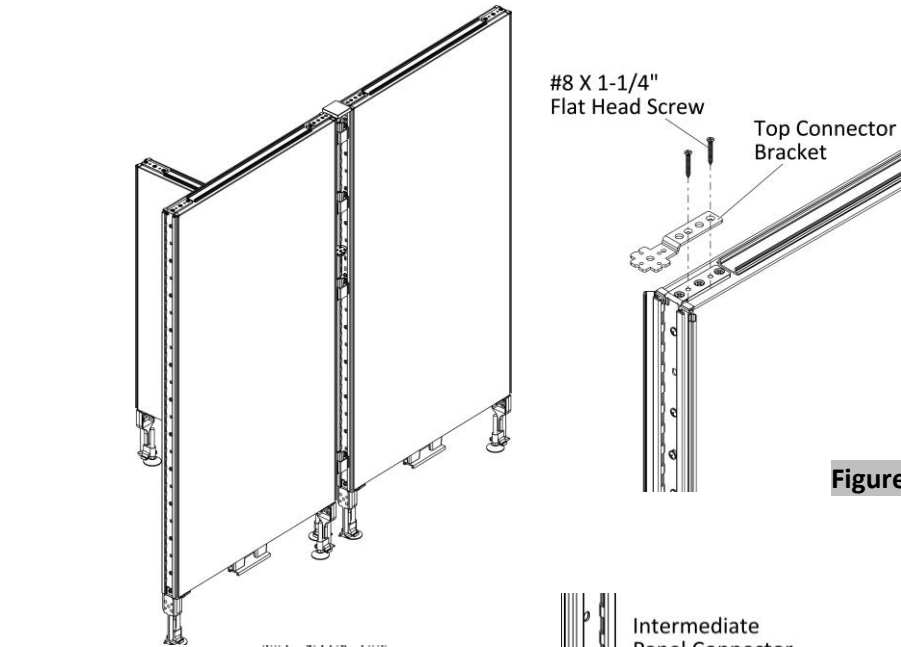

Figure 1
- 1. Position the top connector bracket on the top edge corner of the shorter panel, (Figure 1).